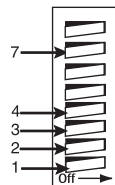

Figure 3: DIP Switches 1-4 and 7
4. Locate the DIP switches numbered 1-4 and 7. (See Figure 3: DIP Switches 1-4 and 7).